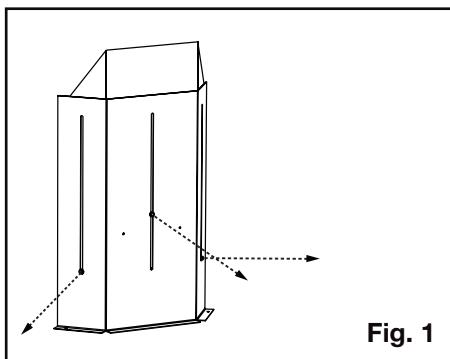

Fig. 1
1. Unscrew the fasteners on the vent shield assembly. DO NOT DISCARD FASTENERS (**Figure 1**).